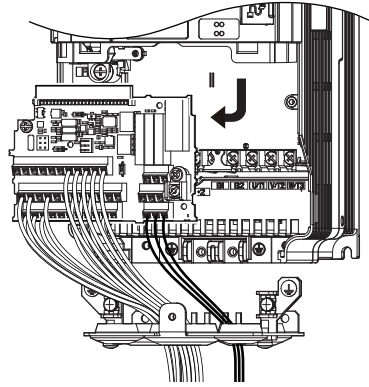

Figure 7.39 Remove the Terminal Board
- Slide the terminal board as illustrated by the arrows in Figure 7.39 to remove it from the drive along with the bottom cover.